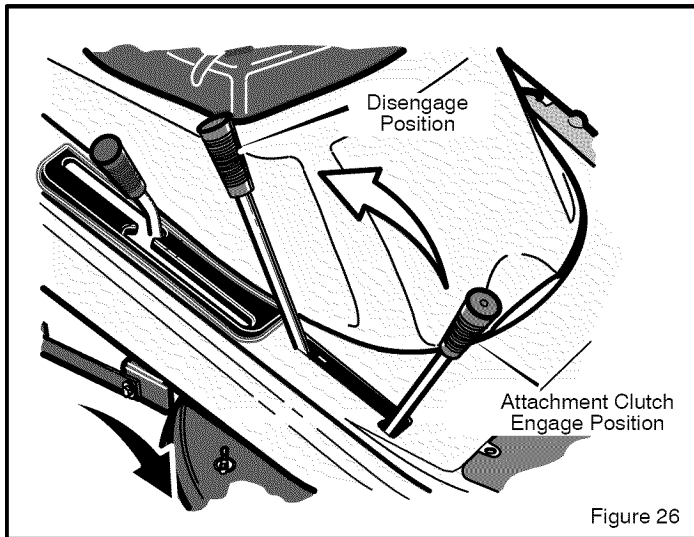

Figure 26
2. Move the **attachment clutch** to the **DISENGAGE** position (Figure 26).